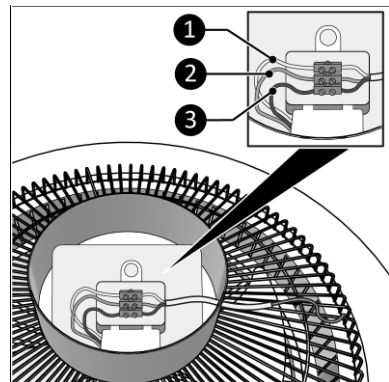

Figure 5
- Brown wire: live (Figure 5, pos. 3);
- Yellow green wire: earth (Figure 5, pos. 2);
- Blue wire: neutral (Figure 5, pos. 1).